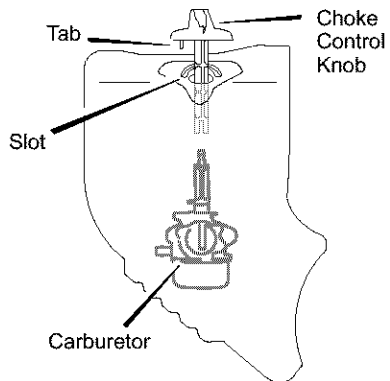

Figure 36
7. Align the tab on the choke control knob with the slot in the snow hood (see Figure 36).